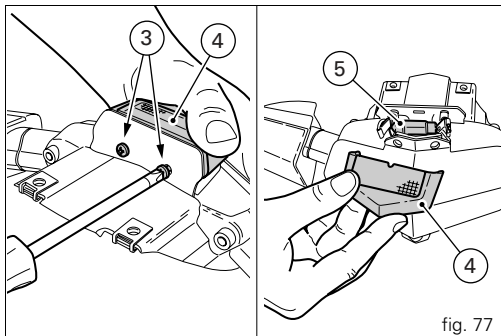

fig. 77
Remove the shell and the lens and change the number plate light bulb (5) (fig. 77).